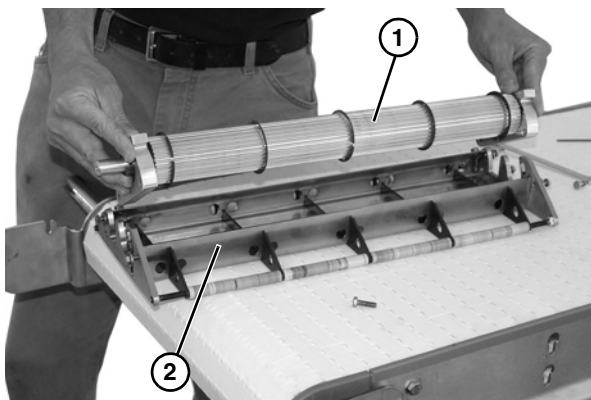

Figure 37
4. Remove shaft assembly (Figure 37, item 1) from power transfer frame (Figure 37, item 2).